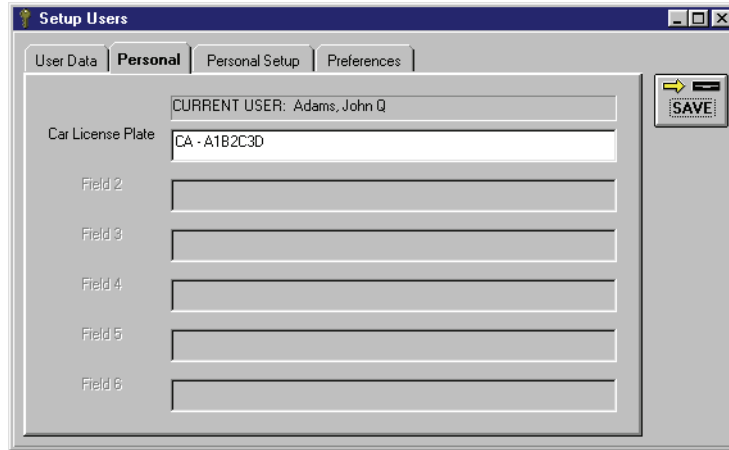

Figure 4-22: Personal Tab
6. Click in the personal field to be used and enter the appropriate information. The resulting window should look similar to Figure 4-22 on page 20 of this section.